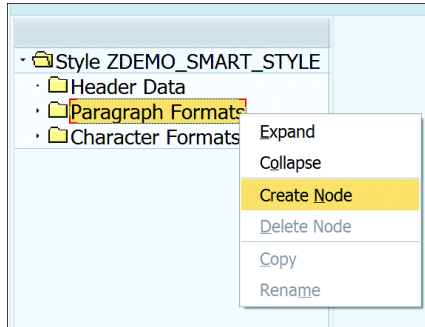

Figure 18.54 Create Paragraph Format
3. You can create any number of paragraph and character formats within the style. To create a paragraph format, right-click the PARAGRAPH FORMATS node and select CREATE NODE from the context menu, as shown in Figure 18.54.